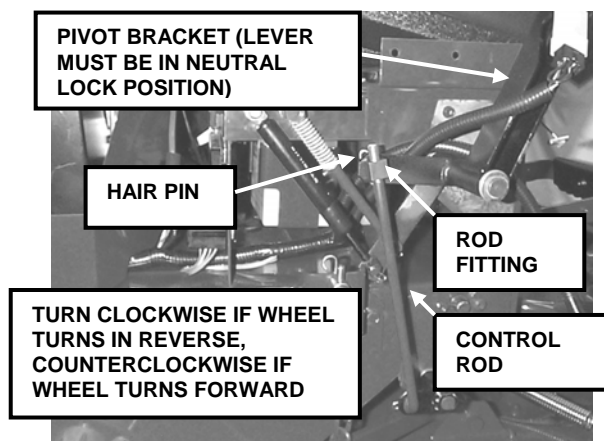

FIGURE 4.1
1. Remove the hair pin and washer securing the rod fitting to the Motion Control Lever pivot bracket. See Figure 4.1. Pull fitting end out from bracket.